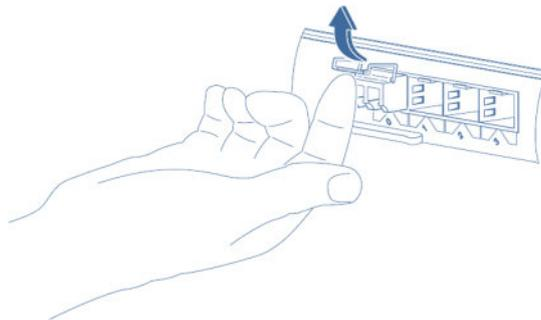

Figure 8 : Opening the bale clasp of an SFP+ Module
3. Open the bale clasp on the SFP+ module with your index finger, or a small flat-blade screwdriver, in a downward direction, as shown in Figure 8.